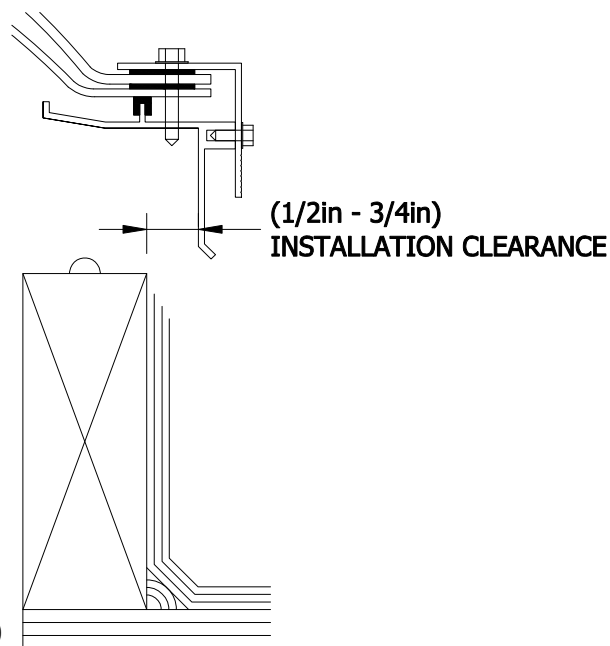

FIGURE 4.0
- Set the skylight on the curb. The skylight should have a loose fit over the curb. Most skylight manufacturers build their skylights to have a 1/2" to 3/4" clearance between the outside face of the curb and the inside of the skylight frame to provide for roof material termination between the outside curb face and inside of the skylight curb under the protection of the vertical leg of the skylight frame (See Figure 4.0).